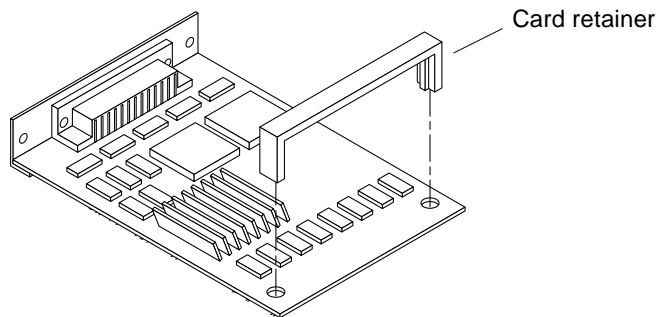

FIGURE 4-17 Card Retainer
3. **Remove the black plastic card retainer shipped with the card (FIGURE 4-17).**